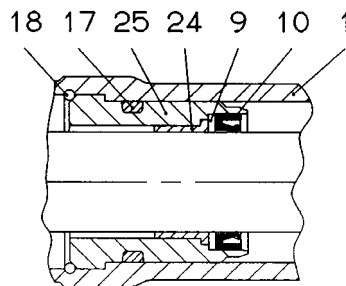

Fig. 25
- Installed position of the seal (10 or 10.9): refer to *Fig. 25*.
- Depending on the version, instead of washer (9) and seal (10), seal (10.9) - seal and washer assembly - can be built in.